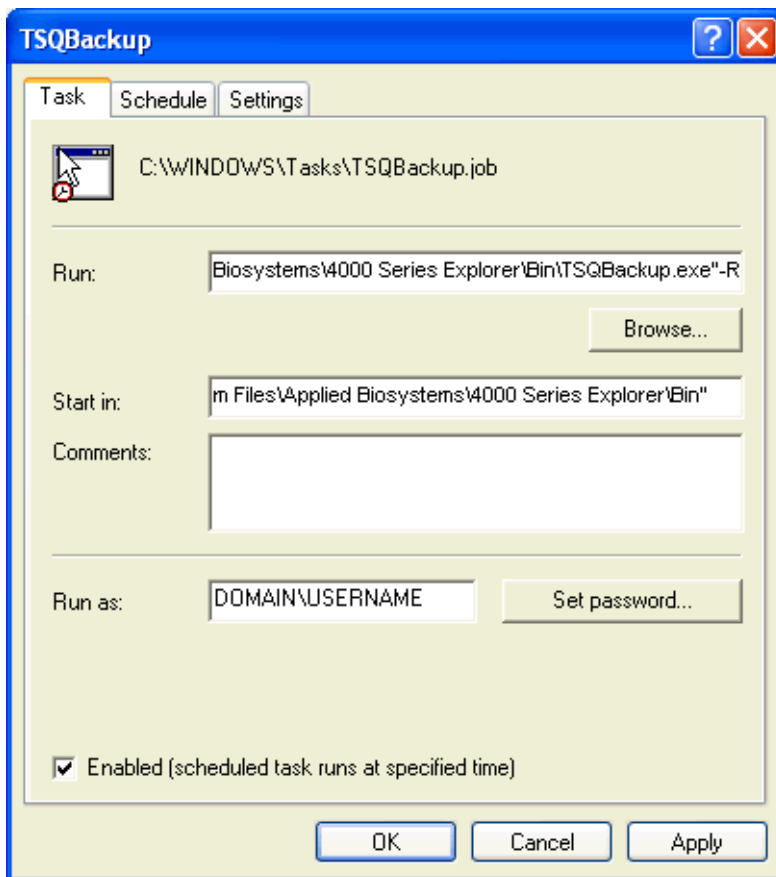

Figure 5-11 Run field
8. When the Task tab opens, click to position the cursor at the end of the last quotation mark in the Run field. Type **-R** in the Run field. Figure 5-11 on page 5-24 shows how the updated Run field should appear.